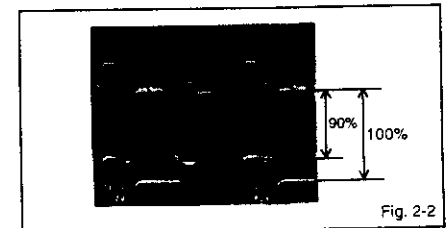

Fig. 2-2
6. Press the VOL. UP/DOWN button on the remote control until the red color level is adjusted to  $90 \pm 5\%$  of the white level. (Refer to Fig. 2-2)